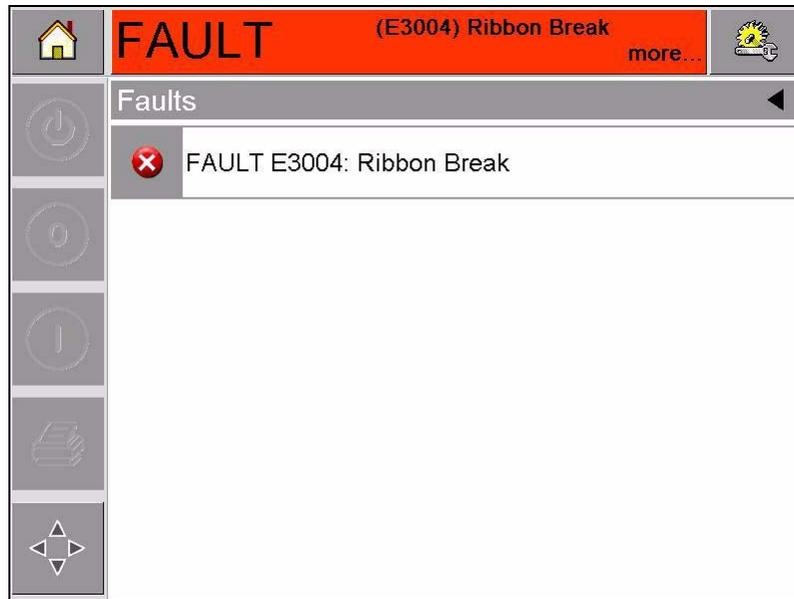

Figure 5-2: Fault Selection
- 1 Touch the red FAULT message to view the list of faults (Figure 5-2).